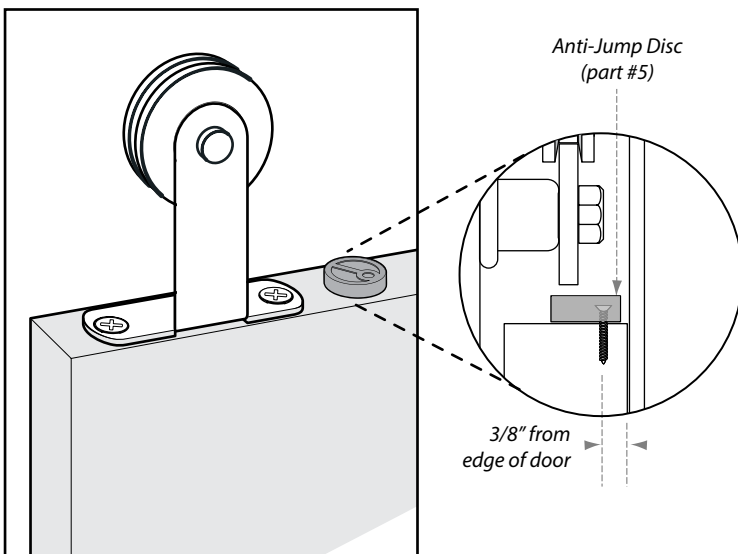

Figure 9
- Once clearances and proper door operation are established, install anti-jump discs as shown 6" to 8" from edge of door (figure 9).